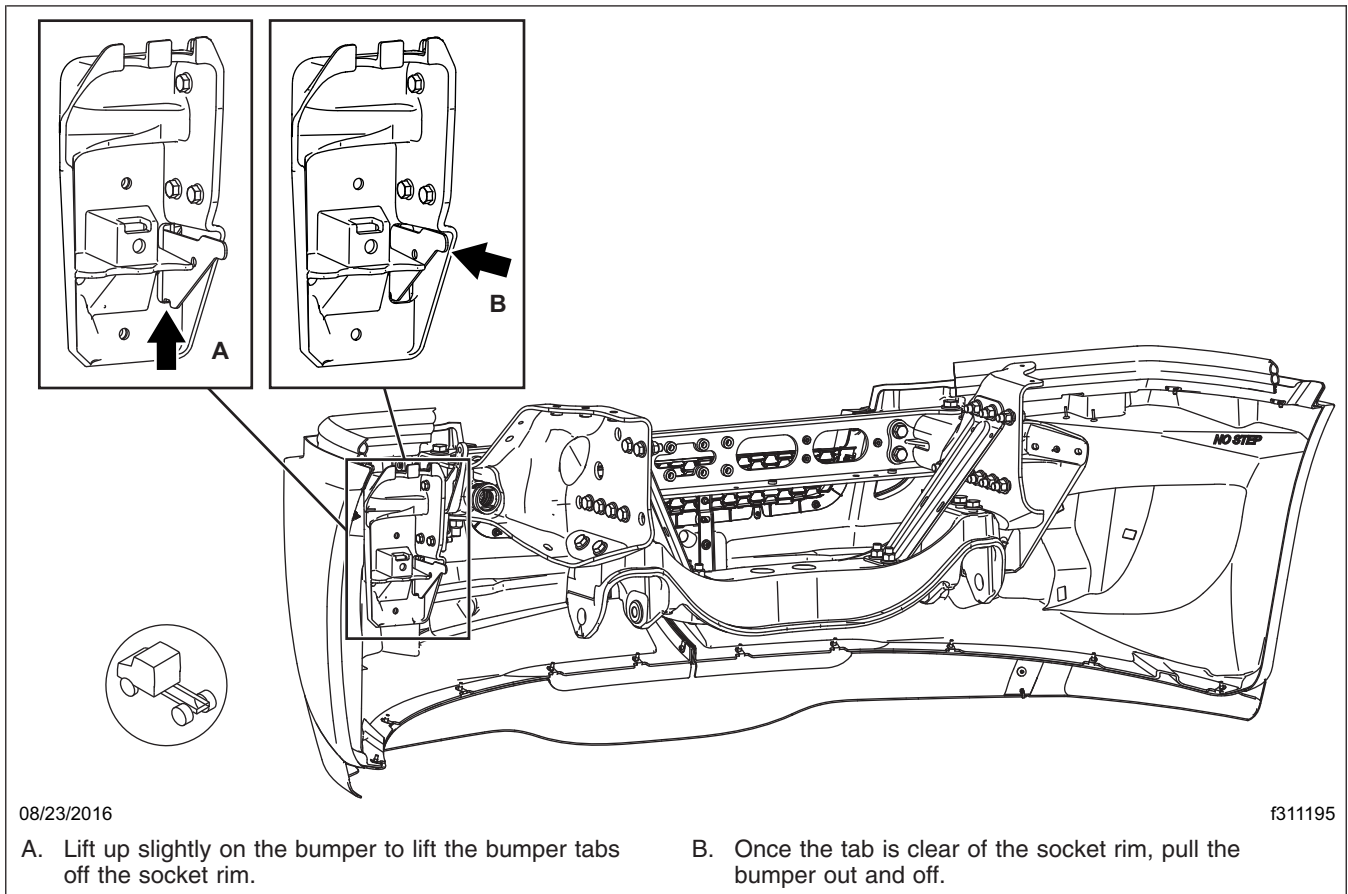

Fig. 2, Aerodynamic Bumper Removal, Mounting Tabs
- Lift slightly up on the bumper to move the bumper tabs up off the bumper casting sockets, then pull the bumper off. See Fig. 2.